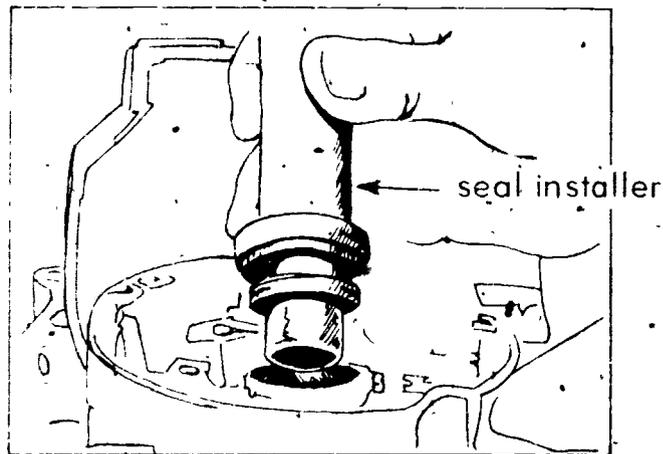

FIGURE 4
T. Install new oil seal (Figure 4)